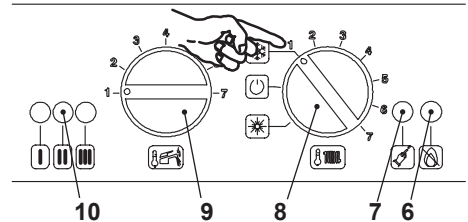

Fig. 7.10
- Set the function knob 8 as illustrated in Fig. 7.10.